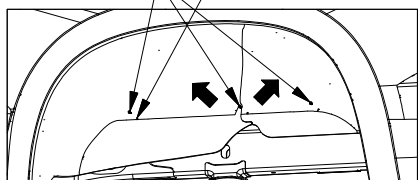

Figure A2: View looking into driver side wheel well.
2. **Detach wheel well liners.** If flexible wheel well liners are present, three T15 Torx screws will need to be removed so the liners can be folded up to allow the side plates to be installed. See Figure A2. Remove the screw retainer from the forward most hole using a screw driver. It will be replaced after the hitch is installed.